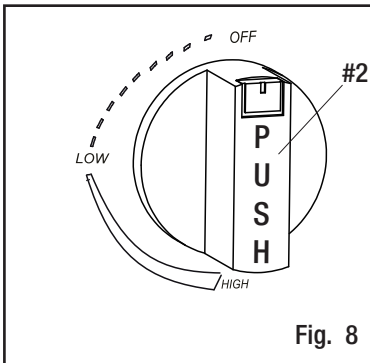

Fig. 8
1. Make sure control knob (#2) is on the "OFF" position on the control panel. (Fig. 8)